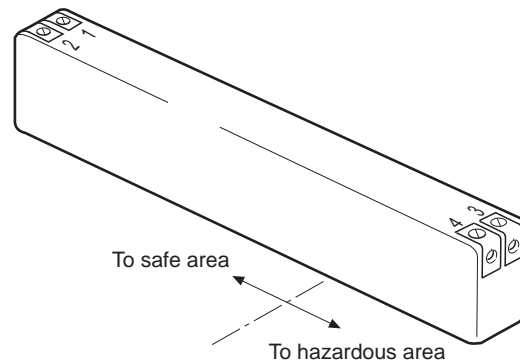

Fig. 6.2 Zener Barrier Units in the 6553 Monitor Unit
6.3.2 Zener Barrier Units – Fig. 6.2
- 2) Disconnect the cable connected to terminal 3 of the barrier unit – see Fig. 6.2.